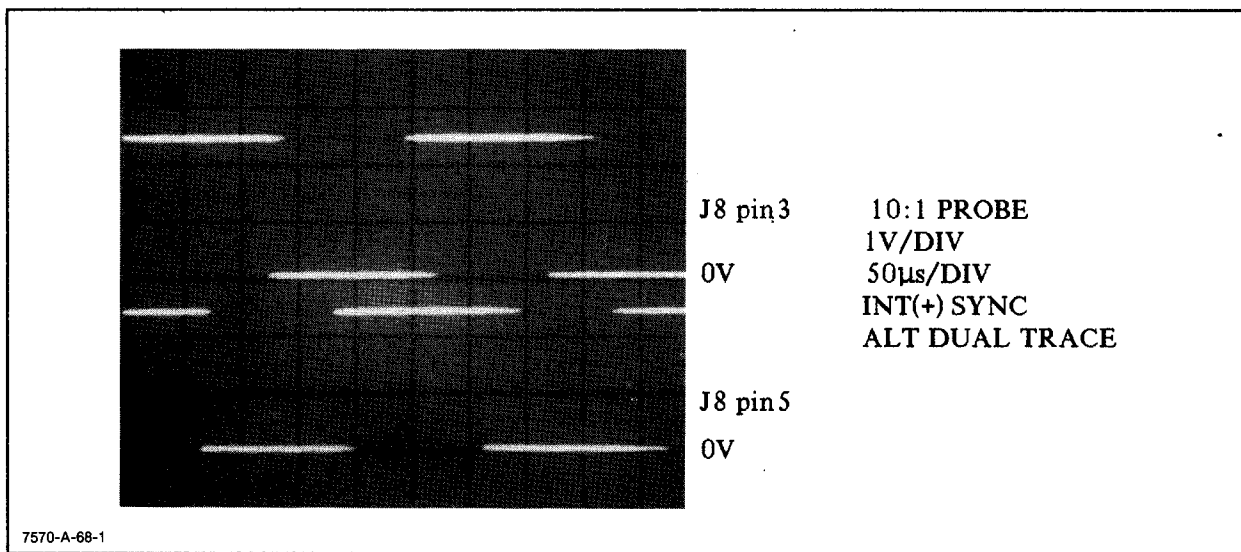

Figure 8-11. Motor Encoder Output
- j. Monitor the output of the motor encoders with the oscilloscope at pins 3 and 5 of J7 on the main PCA while pressing either the UP or DOWN cursor pushbutton. The waveform should appear similar to Figure 8-11.
- k. Monitor the output of the motor encoders with the oscilloscope at pins 3 and 5 of J8 on the main PCA while pressing either the LEFT or RIGHT cursor pushbutton. The waveforms should appear similar to Figure 8-11.
- l. Turn OFF (O) the plotter, return the test switches to the OFF (O) position, and replace the chassis cover.